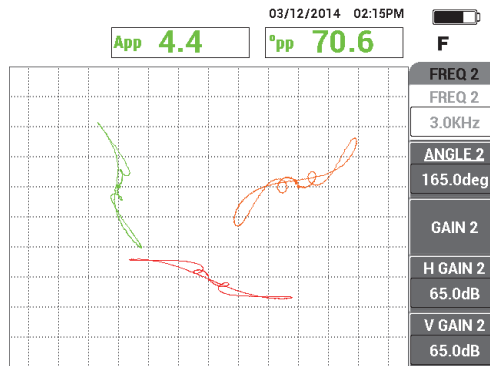

Figure 5-141 The scan of the support ring
7. Place the probe in a defect-free area near the tube's support ring, and then press the NULL foot switch. Scan the support ring and press the FREEZE key (❄) when done (see Figure 5-141 on page 226).